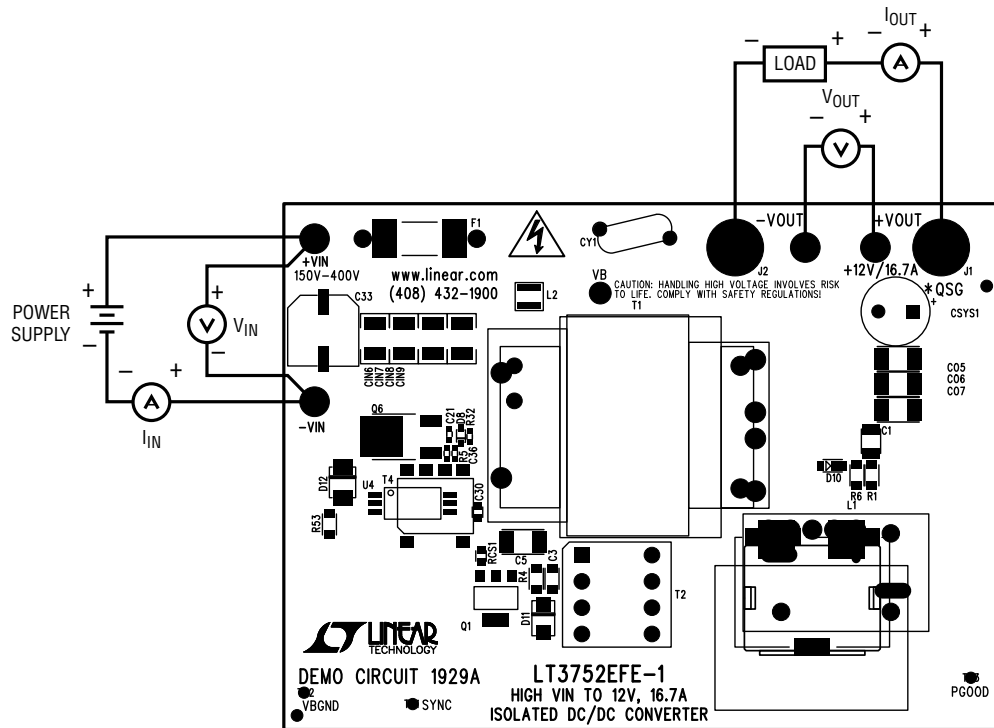

Figure 1. Proper Measurement Equipment Setup
Demonstration circuit 1929A must be set up as follows to evaluate the performance of the LT3752-1/LT8311. Refer to Figure 1 for proper equipment setup and follow the procedure below.
2. Direct airflow of 300LFM across the demo circuit for sustained operation at full load. Refer to Figure 1 for proper airflow direction.
NOTE. Airflow should be directed to the demo circuit according to the direction shown in Figure 1. Running the circuit at full load without airflow could overheat the power components, and lead to damage of the board. Overload operation of the demo circuit is feasible for short-term only. Long term overcurrent operation is not recommended, unless enhanced cooling methods are used.